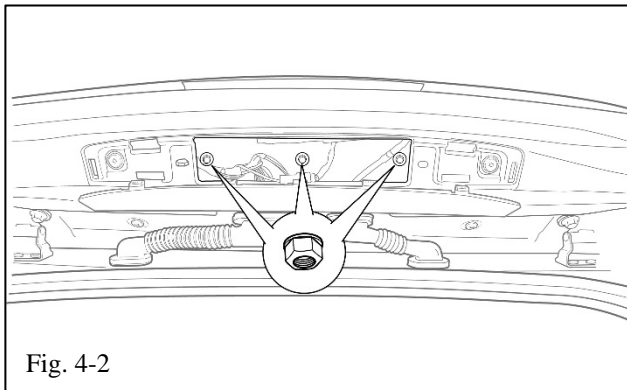

Fig. 4-2
- (e) Install the three M6 nuts onto the center studs and torque to 3.8 N·M (33.6 in.lb) (Fig. 4-2).